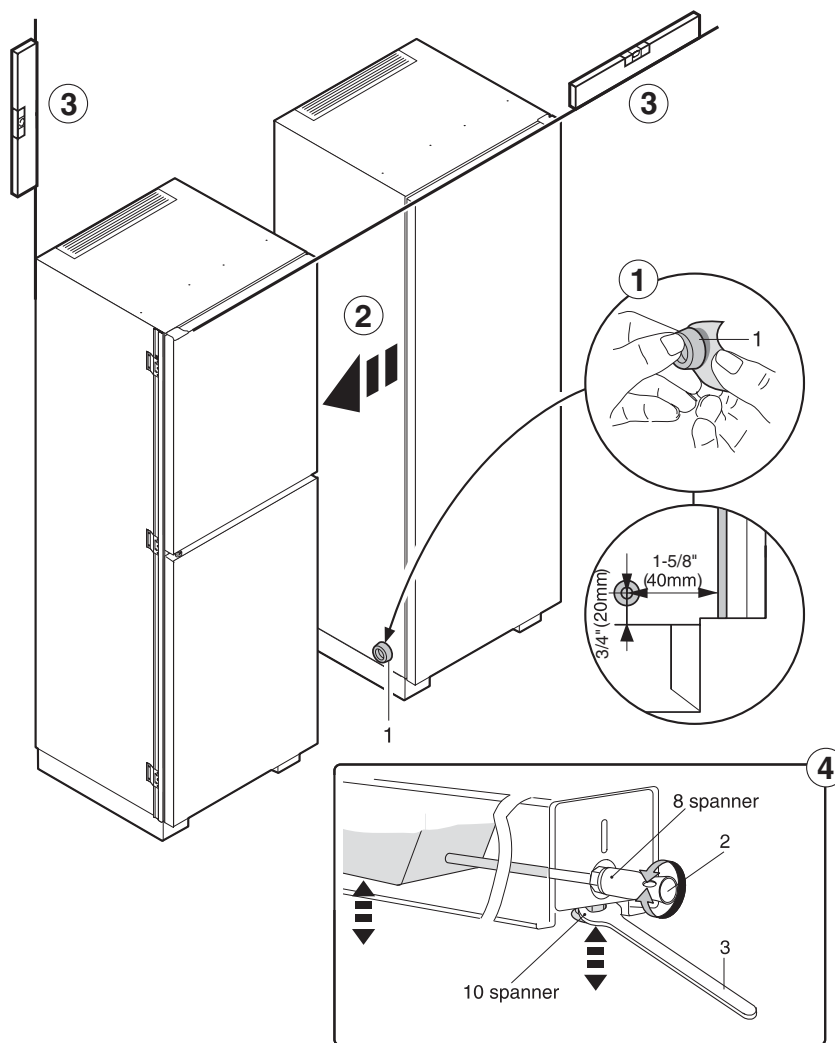

Figure 25
1. Affix the spacer (1) on the side wall of the RBI/RI appliance (**Figure 25**) – remove the protective film.
4. Use the open-end wrench 10mm (3) to adjust the feet at the front of the roller base. Turn